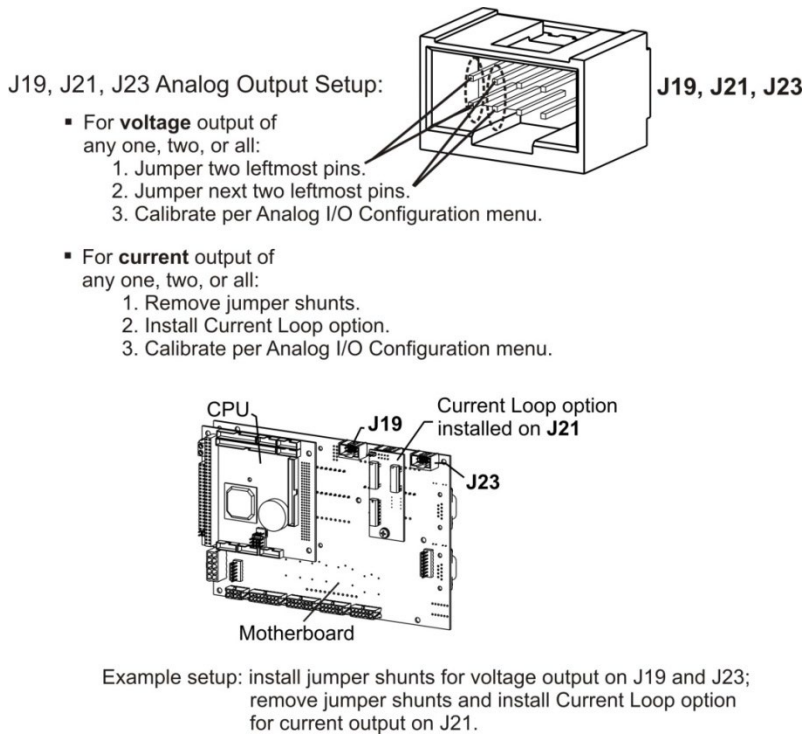

Figure 2-7. Current Loop Option Installed on the Motherboard
Figure 2-7 provides installation instructions and illustrates a sample configuration of one current output combined with two voltage outputs. Next are instructions for converting current loop analog outputs to standard 0-to-5 VDC outputs. To calibrate or adjust these outputs use the Setup>Analog Outputs menu (Section 2.5.8).
5. Disconnect the current loop option PCA from the appropriate connector on the motherboard (see Figure 2-7).
6. Each connector, J19 and J23, requires two shunts. Place one shunt on the two left most pins and the second shunt on the two adjacent pins (see Figure 2-7).